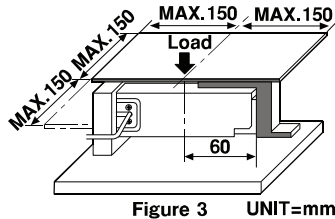

Figure 3 UNIT=mm
- (1) When the total platform weight (including the platform fixtures) is within 80% of the rated capacity, the load cell provides optimum performance. The total load should be as light as possible to prolong the service life and excellent performance of the load cell.
- (2) For the allowable dimensions of the platform, see Figure 3. Also, when designing a platform, see the "PRECAUTIONS ON OVERLOAD" below.
- (3) When attaching the platform, be careful not to apply unnecessary force (torsion or lateral load).